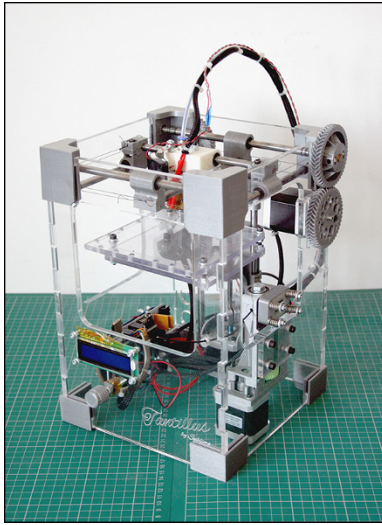

FIGURE 11-11:
- » **Tantillus:** The Tantillus looks a lot like a miniature Ultimaker, as Figure 11-11 makes clear. This 3D printer was originally designed to be a fully printable machine. In fact, original versions that don't have the laser-cut frame have the highest percentage of printed components used in any RepRap printer. The case frame construction was originally fully 3D-printed. Another version, with a laser-cut acrylic case, was designed as an easier do-it-yourself kit in a successful crowdfunding campaign by Sublime. One unique feature is the use of high-strength fishing line instead of belts to provide the X and Y motion, resulting in a fast-moving machine and high-quality prints.